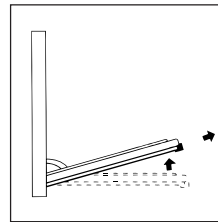

fig 3
- Open the door completely and raise the 2 levers "B" (fig. 3);